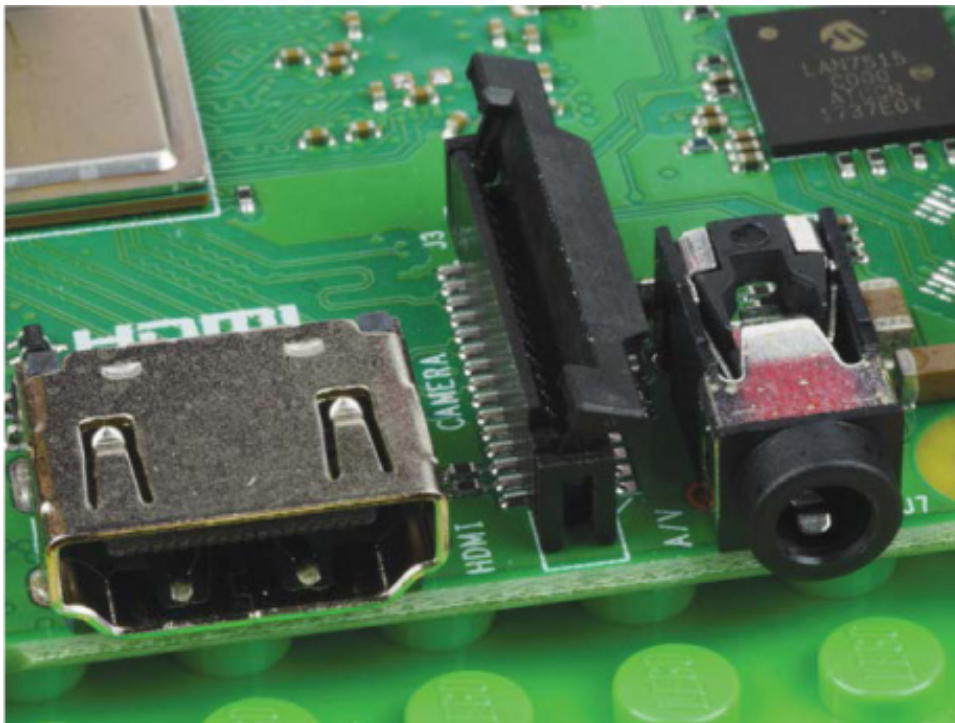

FIGURE 8-4 The CSI port opened for cable insertion
2. Next, open up the port by gently but firmly grabbing it from either side and pulling it upward (see Figure 8-4). This can be a delicate operation, and it often helps to get your fingernails underneath the sides.